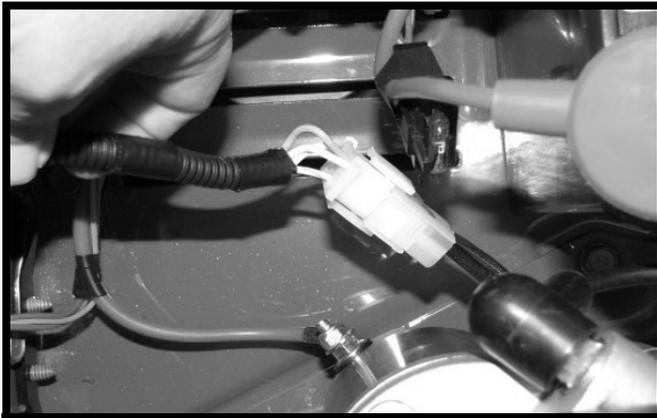

FIGURE 4
6. Push until the locking tabs make an audible “click”. See Figure 4.